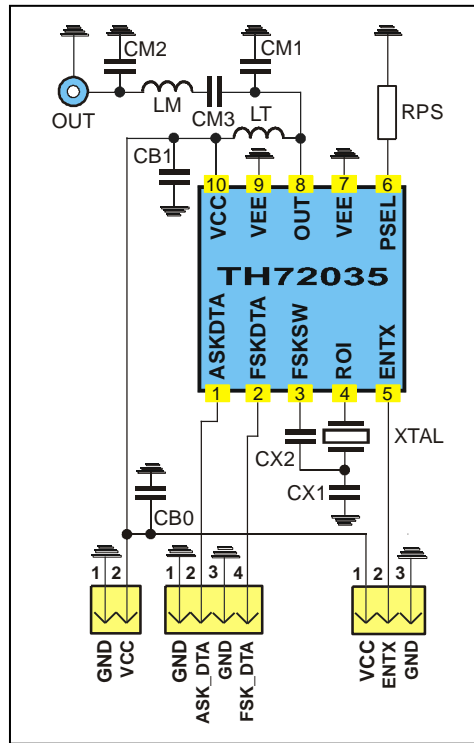

Fig. 18: Test circuit for FSK and ASK with 50 Ω matching network
typical values at $T_A = 23\text{ °C}$ and $V_{CC} = 3\text{ V}$; test circuit shown in Fig. 18, $f_c = 868.3\text{ MHz}$
- Data according to test circuit in Fig. 18 (868.3MHz)
6.1. Test circuit component list to Fig. 18